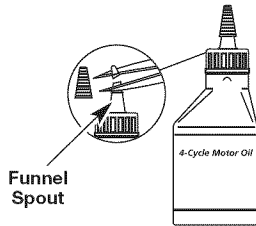

Fig. 5
The unit is supplied with one 3.04 fluid oz. (90 ml) bottle of SAE 30 SF, SG, SH oil (Fig. 5).
1. Unscrew the top of the bottle of oil and remove the paper seal covering the opening. Replace the top. Next, cut the tip off the funnel spout (Fig. 5).